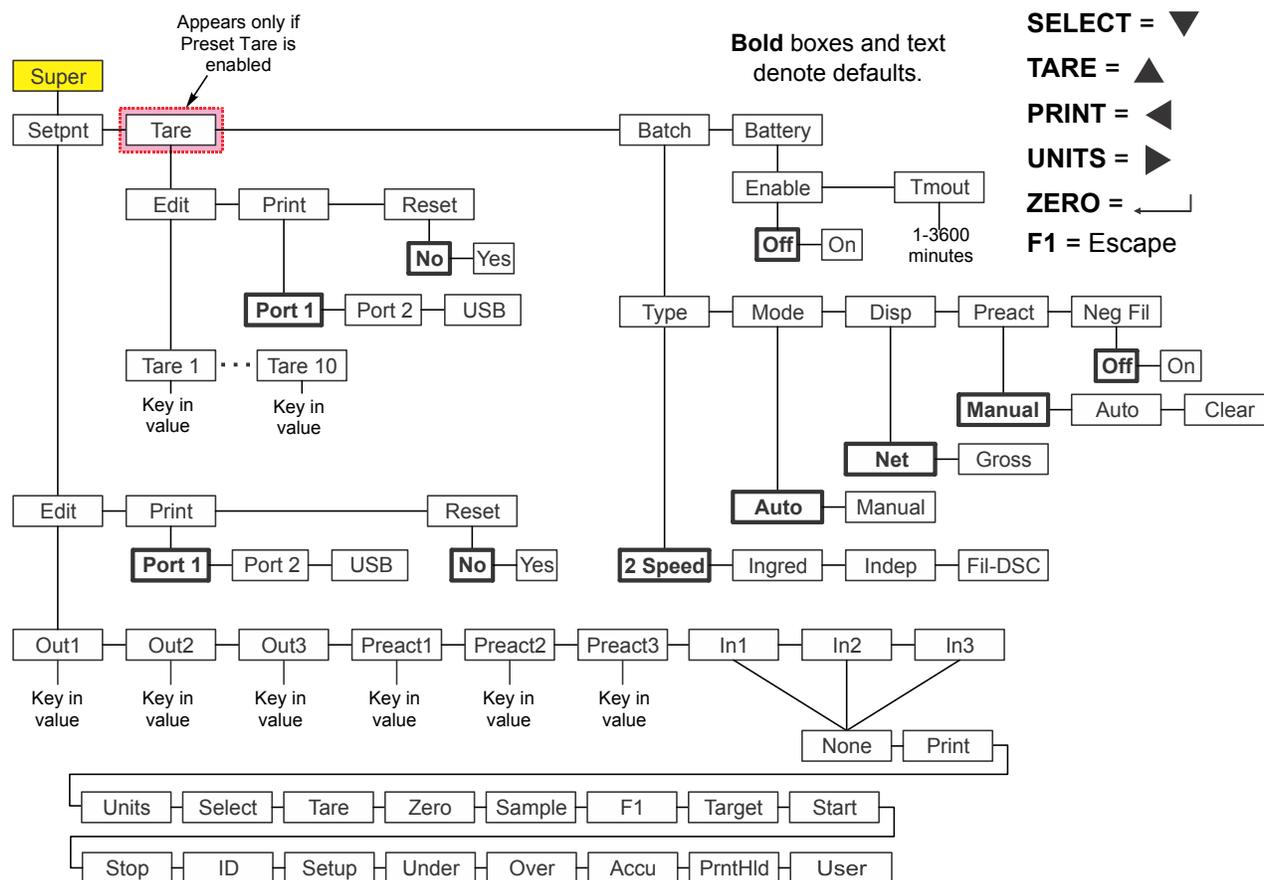

Figure 7.5 Supervisor menu for the Batching application
Figure 7.5 shows the Supervisor menu when you are in the Batching application:
The **Tare** and **bAttErY** submenus in Figure 7.5 are the same as described in General Weighing application supervisor menu on page 50. Go there for information on those submenus. The unique submenus to this application are described below.
*in1* stands for input 1. Use this to assign a function to input 1 when an external switch is tripped. Default choice is **nonE**. The choices are listed in Figure 7.5.